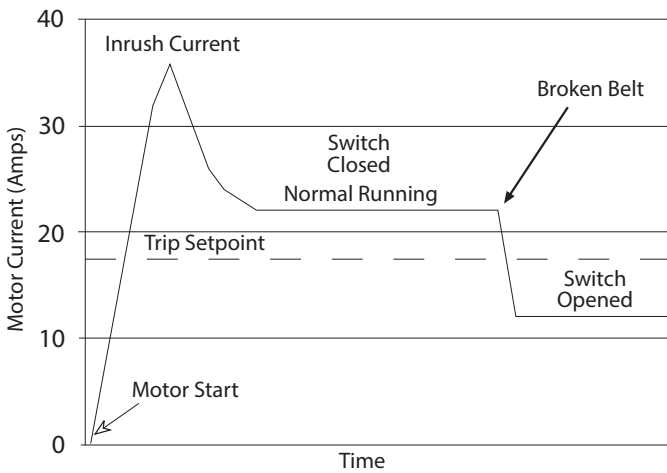

Figure 1
**Read all warnings before beginning installation of this device.** Ensure the selected device has the correct ratings for your application. **Disconnect and lock out power.** Mount the switch with two screws through the base as seen in Figure 1.